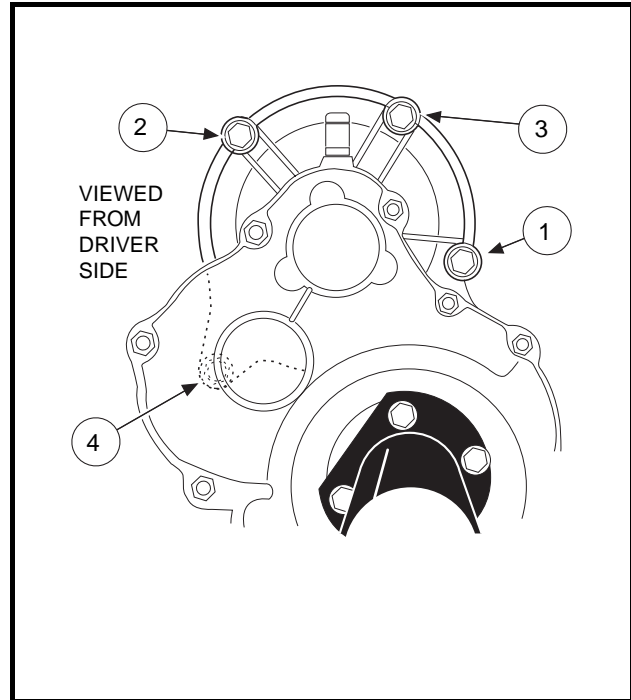

Figure 16-19 Motor Mount
- 4.3. Begin finger tightening the bolts in the sequence indicated (**Figure 16-19, Page 16-15**). Continue tightening by hand until the motor is seated in the transaxle housing. **See following CAUTION and NOTE.**
- 4.6. Tighten the center bolt (3) to 65 in-lb (7.3 N·m) (**Figure 16-19, Page 16-15**).